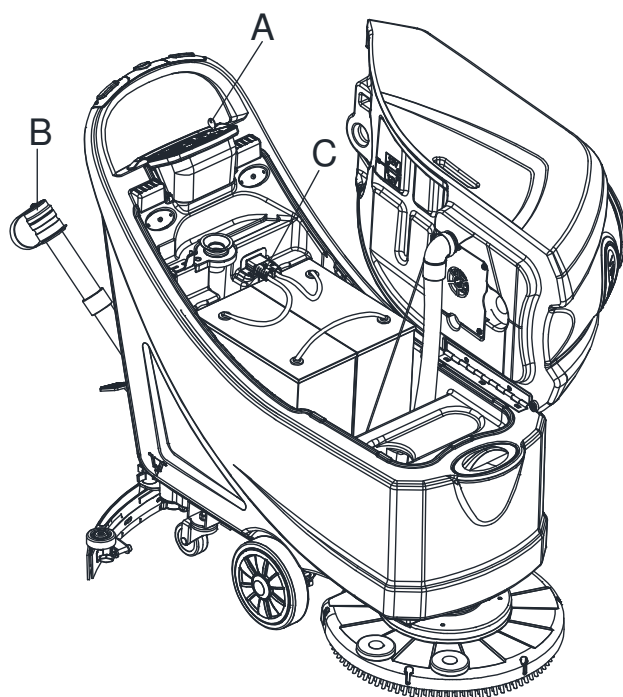

Figure 23
4. Clean the recovery tank lid (A), recovery tank (B), clean water tank (C) and the float ball filter support frame (E). Empty the recovery tank with the drain hose (B, Figure 23).
2. Disconnect the power supply cable(C, Figure 23) from the electrical mains.